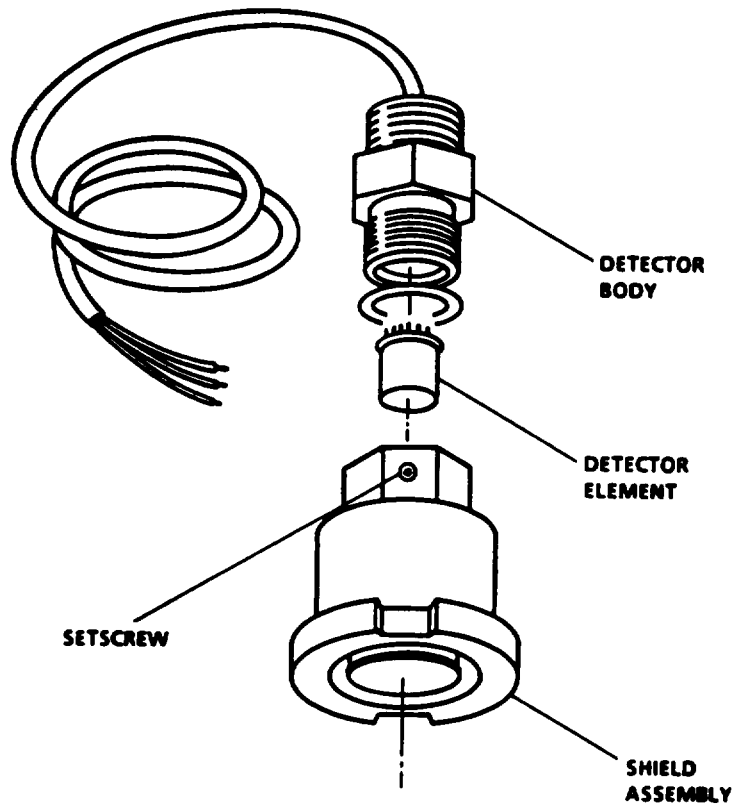

Figure 4-22 Gas Alarm Detector Element
3. Remove gas alarm detector element. See figure 4-22.
3. Install gas alarm detector element. See figure 4-22.